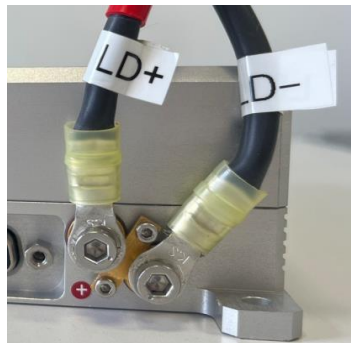

Fig. 10. Rear panel of laser head.
2. Connect Laser Diode cable to as shown in **Fig. 10**.